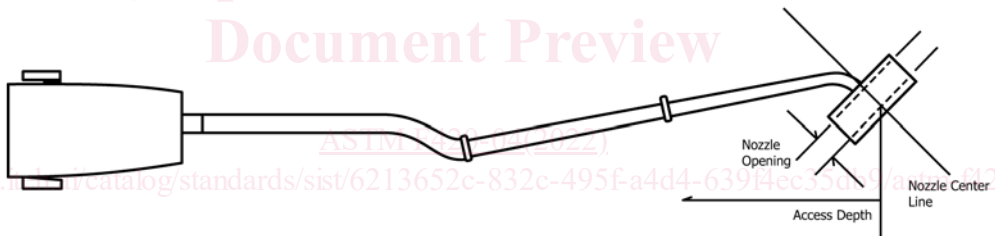

FIG. 3 Access Depth for Combination and Canister Vacuum Cleaners (Nozzle Not Perpendicular to Vacuum Cleaner)
7.2 *Combination and Canister Vacuum Cleaners* (Fig. 2 and Fig. 3):
7.2.3 *Vacuum Cleaner Nozzle Not Perpendicular to Vacuum Cleaner* (Fig. 3)—The access depth is the distance (in inches or millimetres) measured from the front of the 0.75-in. (19-mm) diameter rod (when in contact with the highest component of the cleaning system) to a line parallel to the rod and through the center line of the nozzle and front opening.